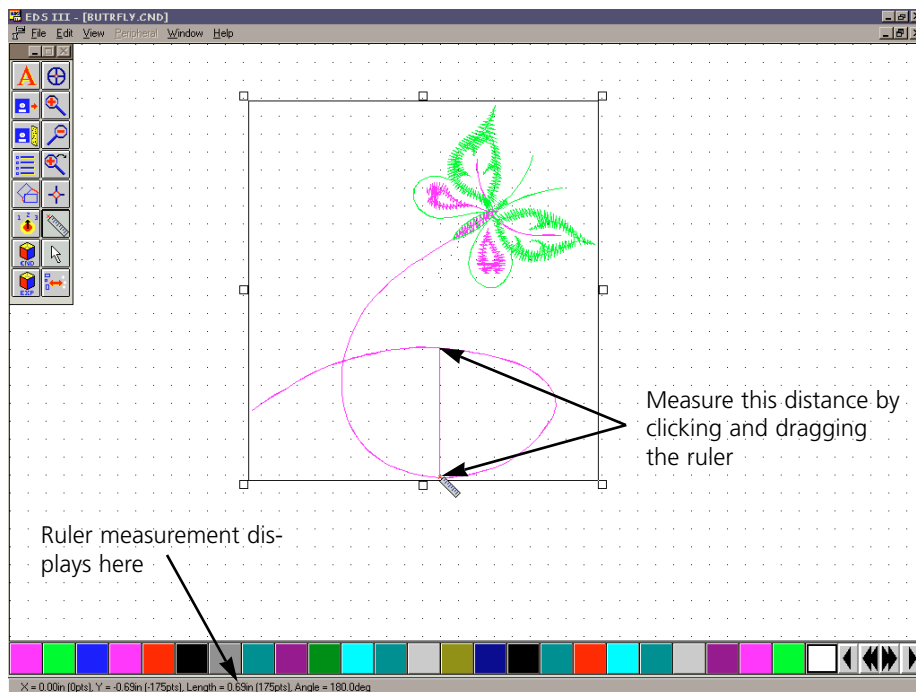

Figure 6-3
4. Measure the Y (vertical) axis by placing the "+" at the highest point of the loop, then clicking and dragging it to the bottom as shown in Figure 6-3. Use the grid to measure in a straight line. This distance should be about 1.12 inches and displays in the Y = part of the Status Bar.